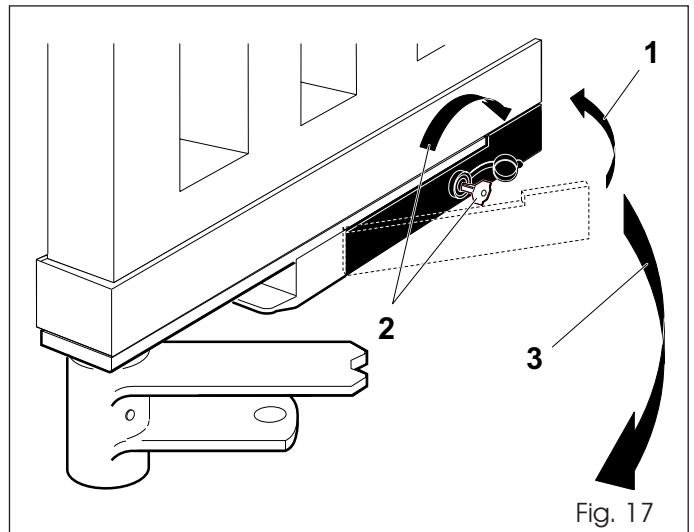

Fig. 17
1. Push the lever back into its home position (Fig. 17 - Ref. 1).
2. Insert the release key into the lock and turn it as far as it will turn in the direction opposite the post (Fig. 17 - Ref. 2).
3. Operate the leaf manually until the lock is engaged in the locking bracket (Fig. 17 - Ref. 3).